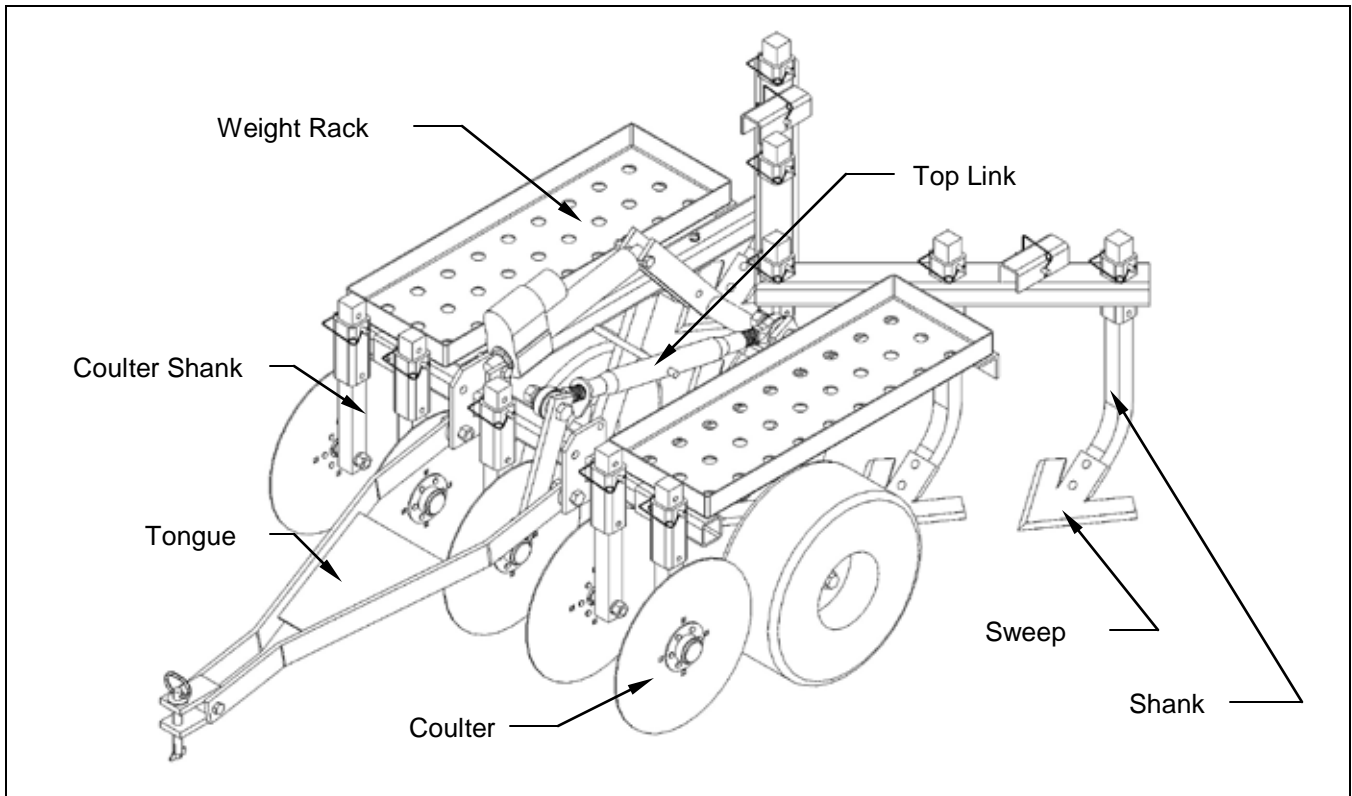

Figure 1. – Tillage Tool Parts
1. The crated tillage tool should have arrived in a vertical position. Lay the crate down with the tires positioned towards the ground. Remove the crate and position the tillage tool on it's side. Remove the center coulters assembly by removing the wire lock pin. At this time the tongue can be rotated in a counter-clockwise direction towards the front of the tillage tool assembly. Reinstall the center coulters assembly and fasten securely with the wire lock pin that was previously removed. **(See Figure 1.)**